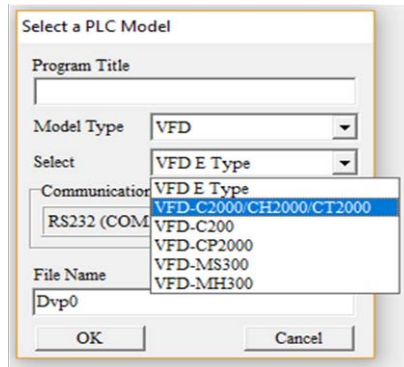

Figure 16-6
Step 4: The "Device settings" window will appear after clicking, see figure 16-6 below. You can now enter the project title and filename, and select the device and communication settings to be used.